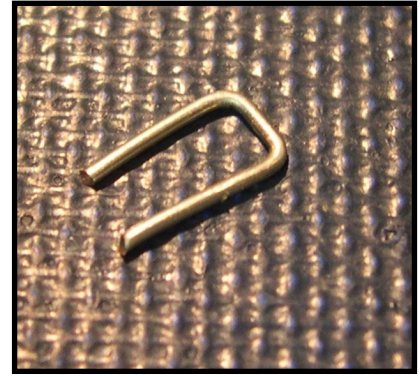

Figure 5a. U Shape Jumper
- If you've thrown out the clipped leads then strip about 1/2"-1cm of insulation from the solid 22g hookup wire. Once cut, use your needle nose pliers to form it into a U shape. (Figure 5a).